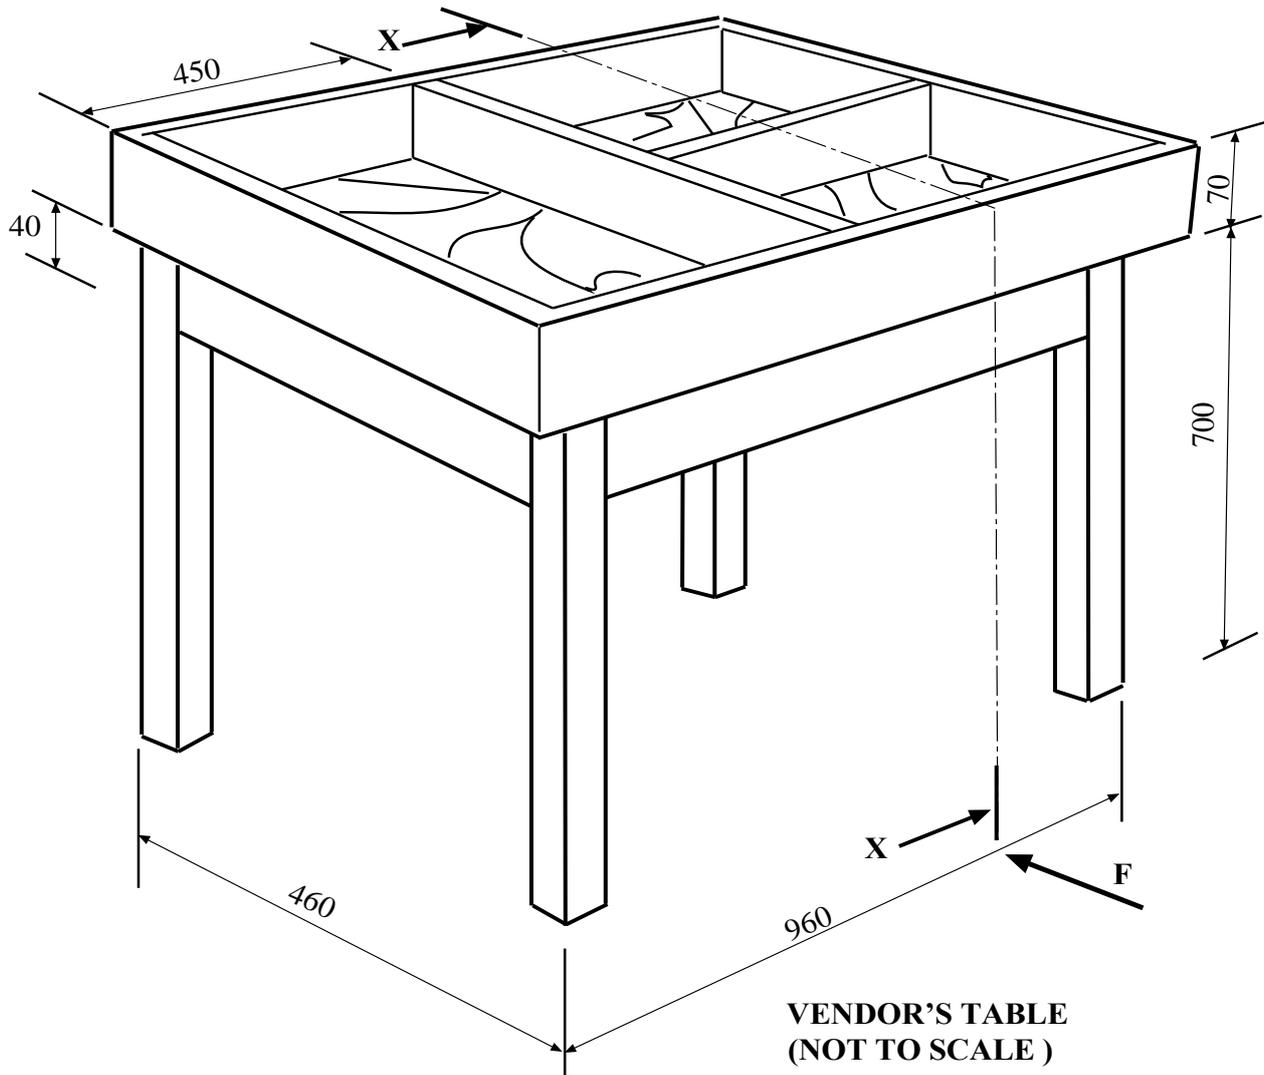

Fig 5
- 16 **Figure 5** shows a Vendor's table made of 20mm thick solid wood and legs of 40 mm × 40 mm thick. The bottom of tray is 9mm plywood rebated in.